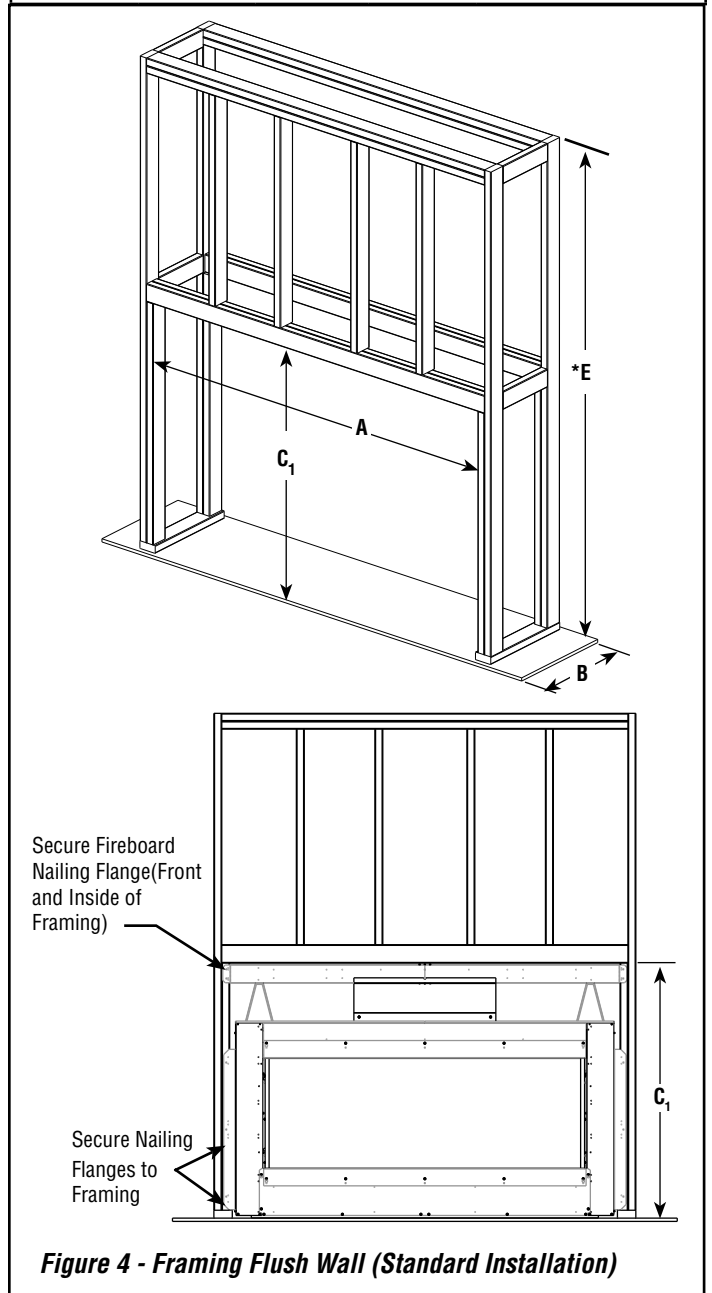
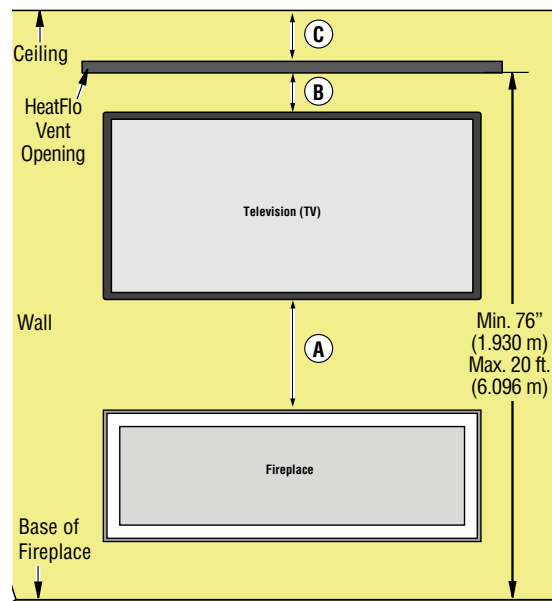
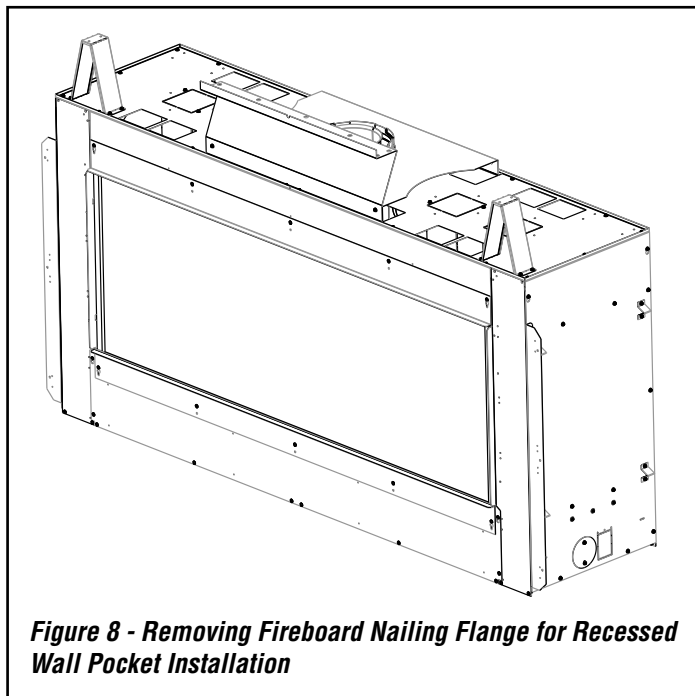
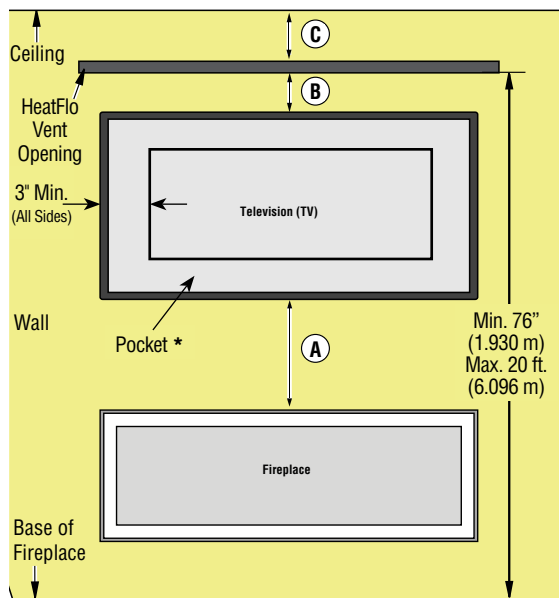

Figure 4 - Framing Flush Wall (Standard Installation)
Figure 6
Figure 8 - Removing Fireboard Nailing Flange for Recessed Wall Pocket Installation
Figure 9 - Dimensions for Television (TV) Installed Above Fireplace on a Recessed Wall Pocket
3. Headers may be in direct contact with the top of the nailing flange, maintaining the 11" clearance to the fireplace top, but must not be supported by them or notched to fit around them after self supporting (see **Figure 4**). All construction above the fireplace must be self-supporting. **DO NOT** use the fireplace for structural support. **NOTE:** On a recessed wall pocket installation, discard fireboard nailing flange leaving fireplace top spacers and heatshield (see **Figure 8, Page 16**). Header may be in direct contact with the fireplace top spacers and heatshield maintaining the 7-1/2" clearance to the fireplace top.
4. **Figure 4**, shows a typical framing of this fireplace. **Figure 6, Page 15** shows framing for HeatFlo kit installation. **Figure 9, Page 16** shows a recessed framing for HeatFlo kit installation. All minimum clearances must be met. Vent pipe needs to maintain 1" clearance. Wood studs may be notched. Fireboard is provided for facing around the fireplace.
NOTE: On a recessed wall pocket installation, discard fireboard nailing flange leaving fireplace top spacers and heatshield (see **Figure 8**). Header may be in direct contact with the fireplace top spacers and heatshield maintaining the 7-1/2" clearance to the fireplace top.
NOTE: Remove Fireboard Nailing Flange for recessed installation (*Figure 8*).